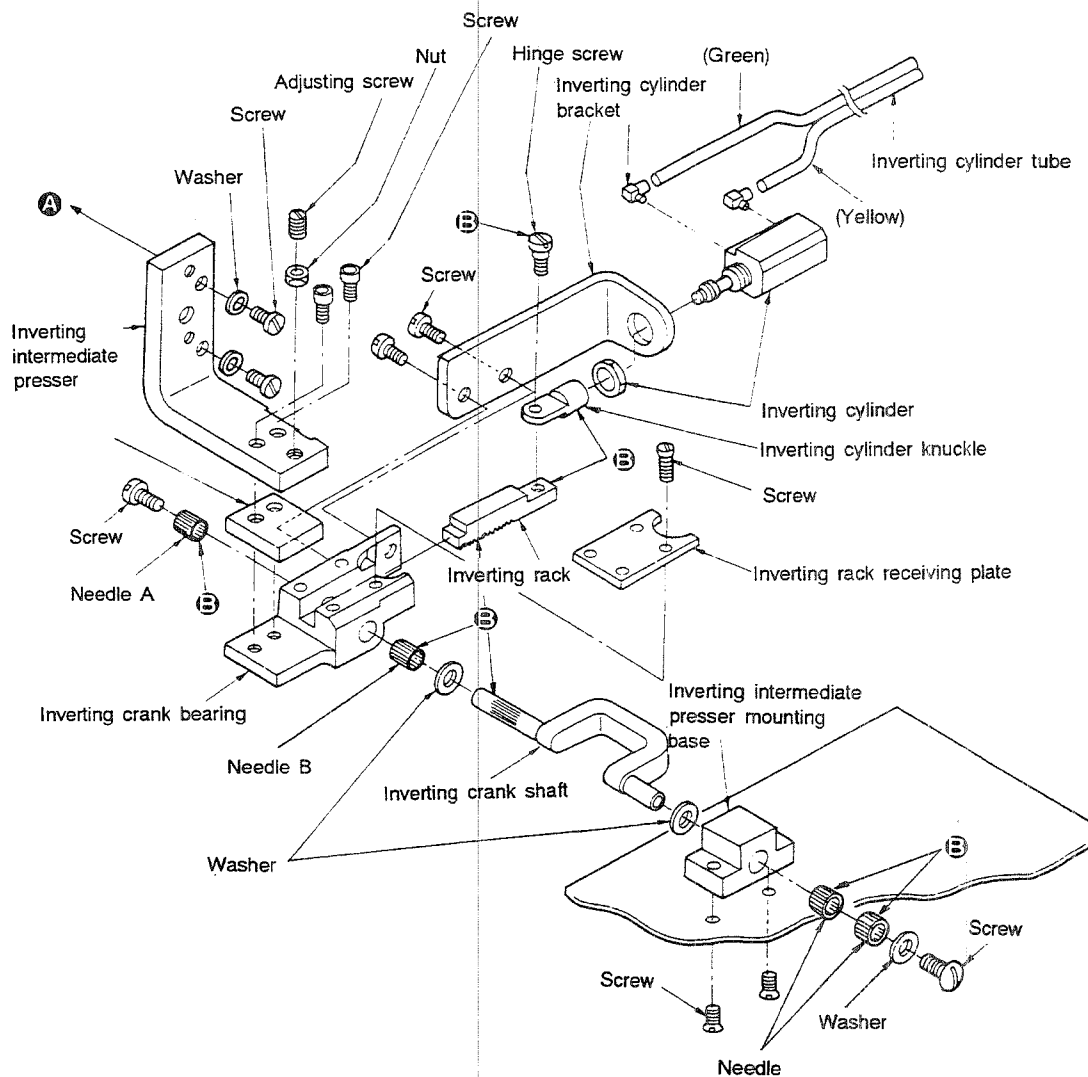

Fig. 4-12-1
1) Assemble the inverting intermediate presser (asm.) referring to Fig. 4-12-1.